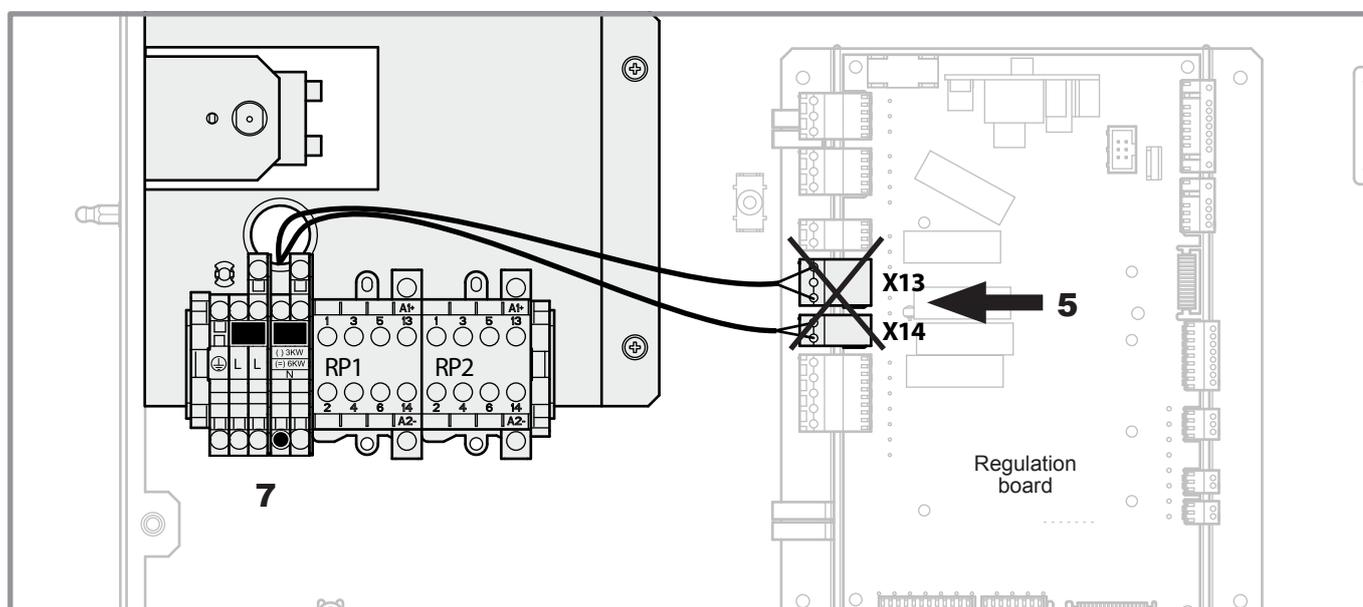

figure 7 - Disconnection of the single phase electrical back-up
- **5** - Disconnect the **X13** and **X14** connectors (single phase electrical back-up, see figure 7).